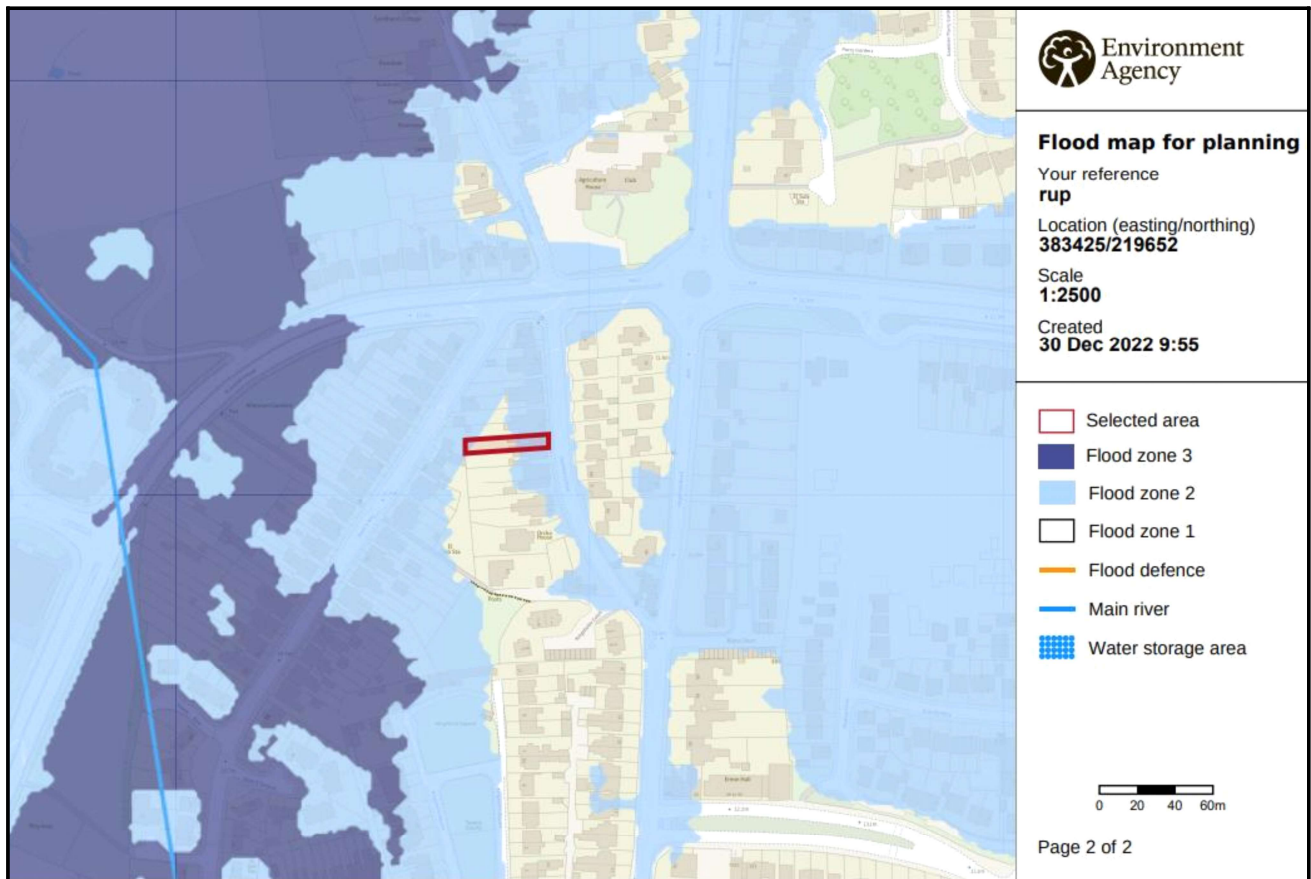

Figure 3: Environment Agency Flood Zone Map (Source: Environment Agency)
4.1.1 The Environment Agency's Flood Zone Map (Figure 3) shows that the site is located within the NPPF Flood Zone 2 and 1. However, the SFRA interactive map (accessed via <https://maps.gloucestershire.gov.uk/MapThatPublic/Default.aspx#>), shows that the site is located entirely within Flood Zone 1 (Figure 4).